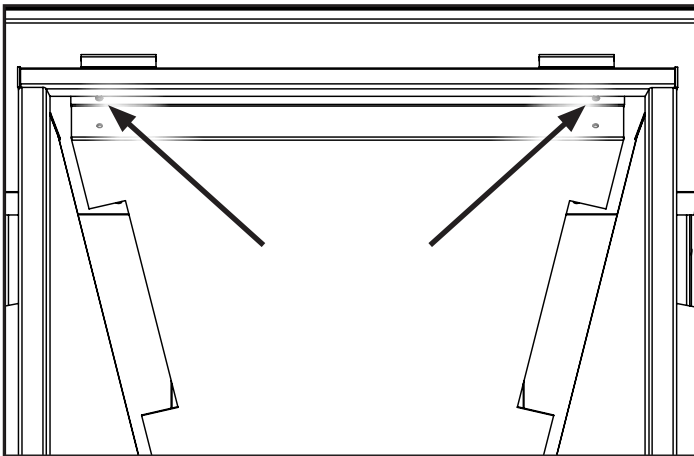

Figure 57. Baffle Screws.
2. Remove the firebox baffle by unscrewing the two screws indicated in Figure 57 using a T20 screwdriver. Lower the front of the baffle down and then lift it out of the two locating screws at the rear of the firebox.